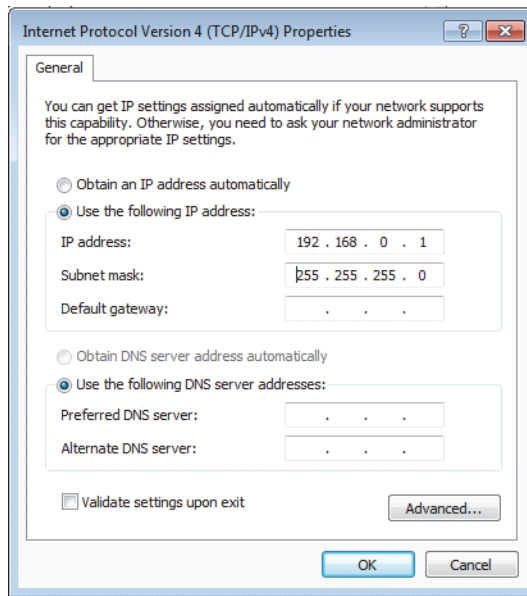

Figure 7-23 The Internet Protocol Version 4 (TCP/IPv4) Properties dialog box (Windows 7)
7. In the **Internet Protocol Version 4 (TCP/IPv4) Properties** dialog box, select **Use the following IP address** (see Figure 7-23 on page 214).